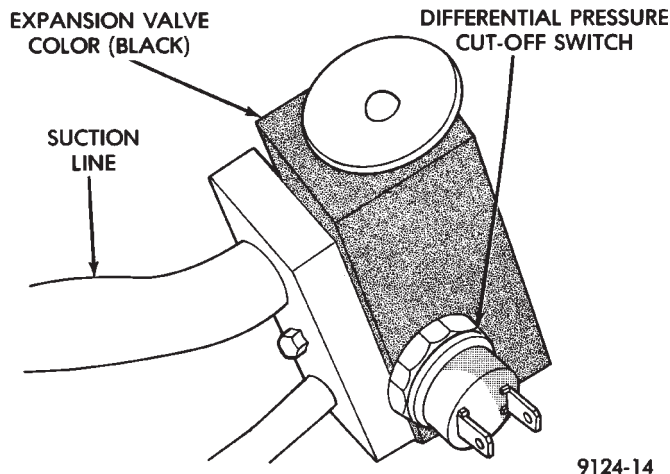

Fig. 5 Differential Pressure Cut-Out Switch
(1) Connect a charging station or manifold gauge set to the refrigerant system service ports. Verify the refrigerant charge level using the sight glass method.
(2) Disconnect and plug the vacuum line at the water control valve.
(3) Disconnect the wire connector at the differential pressure cut-off switch. Using a jumper wire, jump across the terminals inside the connector boot (Fig. 5).